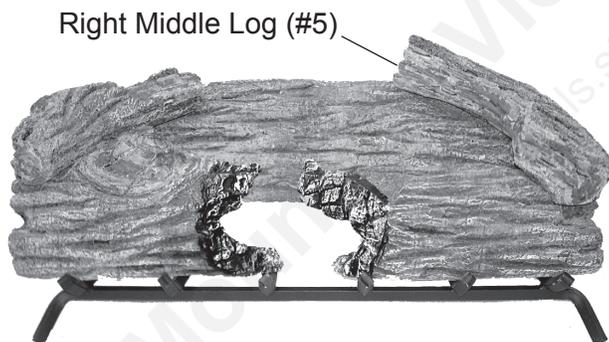

Figure 36 - Installing Right Middle Log (#5)
- Install right middle log #5 as shown. See Figure 36.